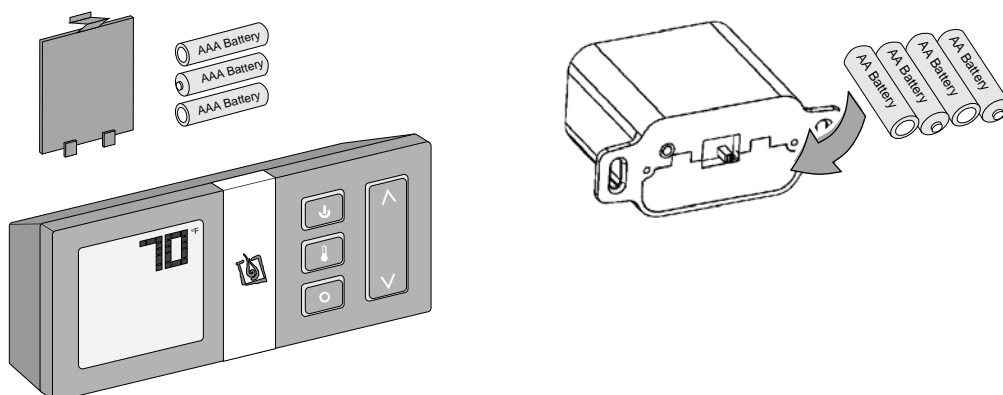

Figure 14
Install four AA batteries into the battery holder (see **Figure 14** below). These batteries act as a power backup in case the household (AC) current goes out.